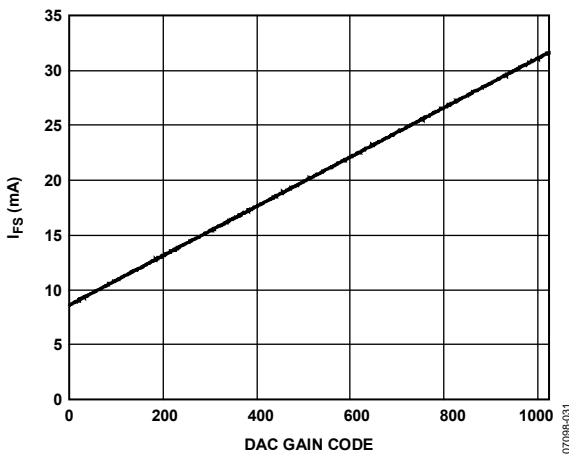

Figure 34. DAC Full-Scale Current vs. DAC Gain Code
8.66mA to 31.66mA by setting the DAC Gain parameter setting as shown in Figure 34.